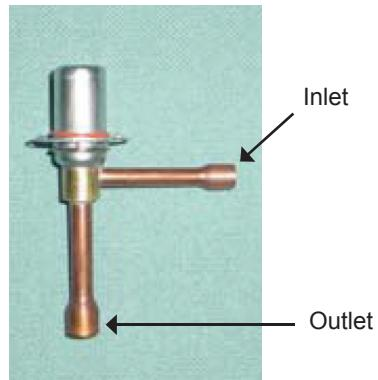

Fig. 2: Refrigeration Valve
- The inlet and outlet of the refrigeration valve are depicted in Fig. 2 (see right).